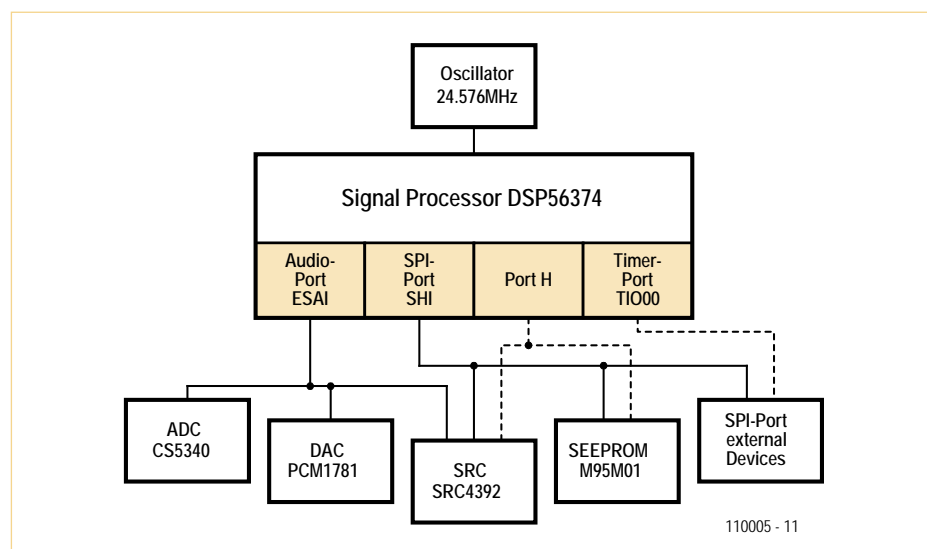

Figure 1. An array of peripherals connected to the DSP.
**Figure 1** illustrates this array of peripherals connected to the central DSP. The solid lines show paths where data transfer takes place and the dotted lines show control paths. The control paths are used by the DSP to configure the peripherals and to request status information from them.